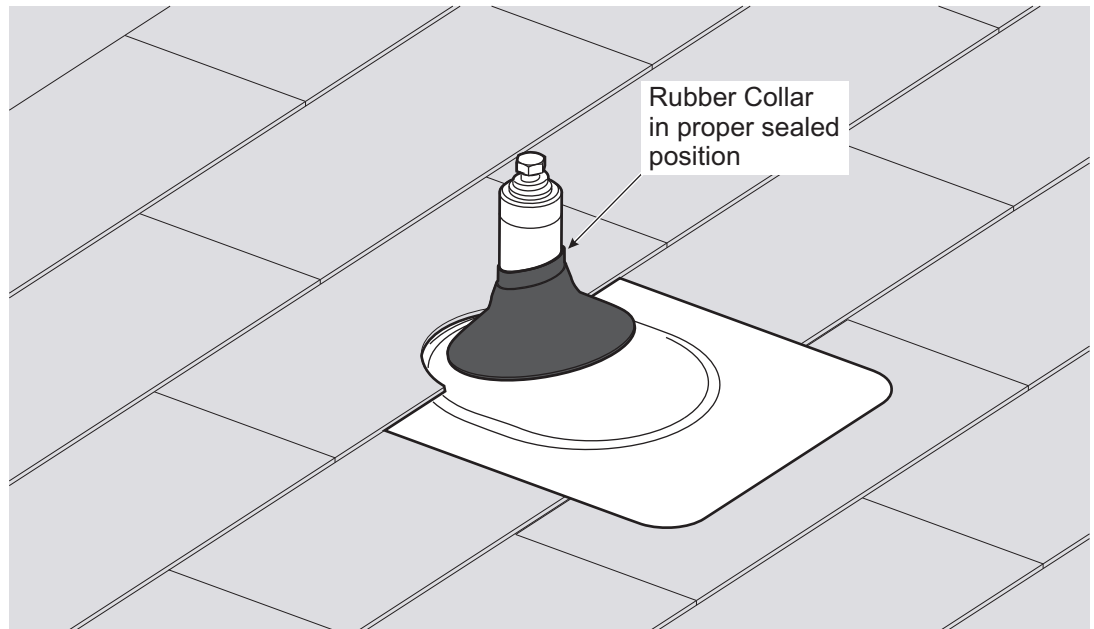

Figure 3-2: Proper positioning of Rubber Collar
- B. Push the Oatey Flashing downward until it rests on the shingles. The Rubber Collar will stretch around the Power Post creating a weatherproof seal. (See Figure 3-2)